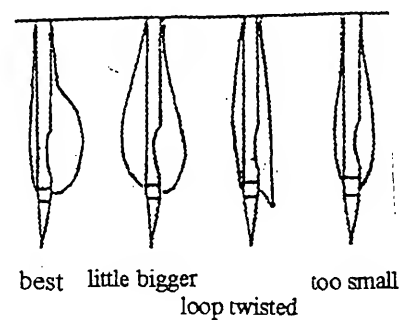

Fig.14
To adjust the height of upper thread (5): When the needle bar is at its lowest position, the thread should be straight, but not too tight. The loop should be stable and prevent stitch skipping from being twisted when the needle bar moves upward. If thread twist is so strong that the loop runs away frequently. Adjust carefully to reach the above requirement, as shown in Fig.14.
面板穿线(5)的高度调节: 要求针杆到最低点时, 缝线全部拉直, 但又不很紧, 使针杆回升时线环稳定, 防止扭曲而引起跳针。如发现线的捻度大, 线环经常逃跑, 则必须细心调到上述要求, 形成最佳线环, 如图 14 所示。